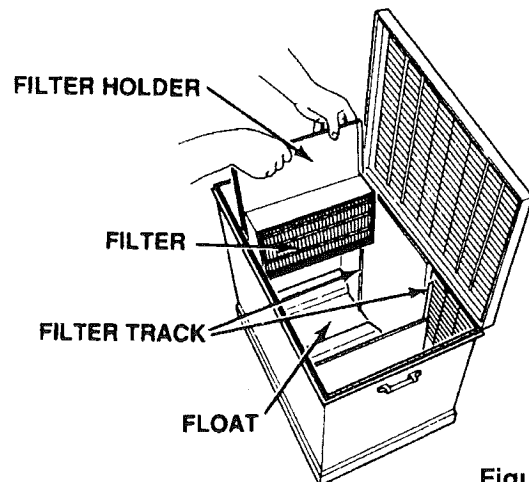

Figure 14
6. Replace the filter (in holder) in the humidifier tank by lining up rear slot on filter holder frame with track on tank. Tilt holder toward rear and lower until front tab lines up with front slot on the filter holder. (See Figure 14)